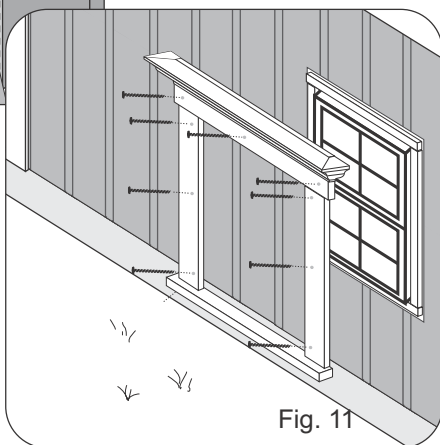

Fig. 11
- Cortex® or Pro Plug® screws and matching plugs should be used when installing Celect trim. Space the fasteners no more than 16" apart and no closer than 2" from the end of the trim. Make sure not to fasten through the siding or into the expansion pocket (Fig. 11).